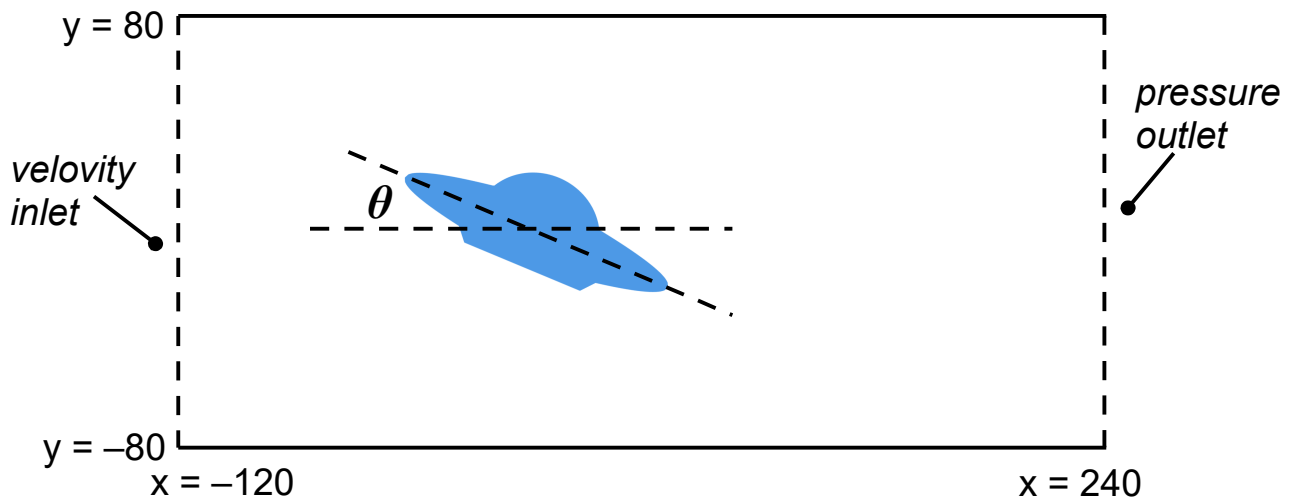

Fig. 5 The tilted flying saucer. For Task 2b, $\theta = 30^\circ$.
- (1) Contour plots of (i) x-velocity, (ii) y-velocity, and (iii) static pressure, for the steady solution.
- (2) Calculation of the drag force and lift force that the fluid exerts on the flying saucer. (Note that here we want the forces instead of coefficients.)
- (b)** Repeat Task 2a but now rotate the flying saucer by a 30° angle around the origin ($x = 0, y = 0$), as shown in Fig. 5. The deliverables are the same as Task 2a.
(b) [for MAE598 only] Repeat Task 3a except that the 3D flying saucer is now tilted, forming an angle θ with the x-z plane. (Envision the 3D counterpart of Fig. 5.) Task 3a corresponds to the case when $\theta = 0$. Here, perform additional simulations with $\theta = 15^\circ$, 30° and 45° . The deliverables are